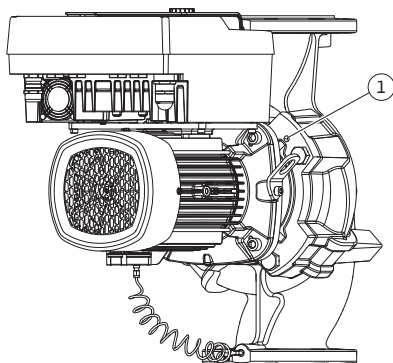

Fig. 104: Pressing off the motor impeller unit via threaded holes
12. For pump type (Fig. III, IV), loosen the screws (Item 29). Use the two adjacent threaded holes (Fig. 104, Item 1) and use suitable screws provided on-site (e.g. M10 x 25 mm). Pull the motor impeller unit off the pump housing.